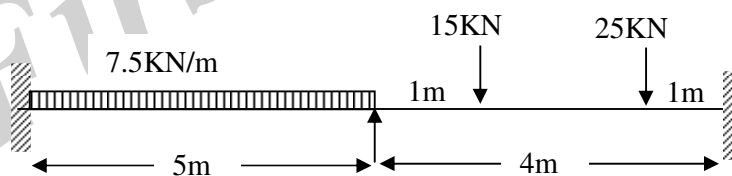

Figure 2
3. Solve the continuous beam in Figure 2 by using theorem of three moments.